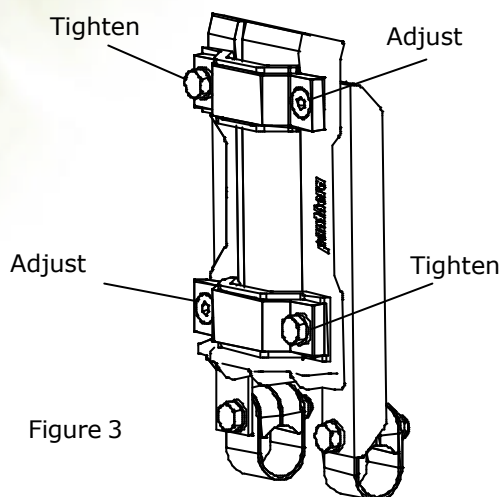

Figure 3
5. Push the armrest down into the mounting. (**Figure 3**)
7. Adjust using the socket head cap so that the side guard can be easily slotted in and removed. (**Figure 3**)